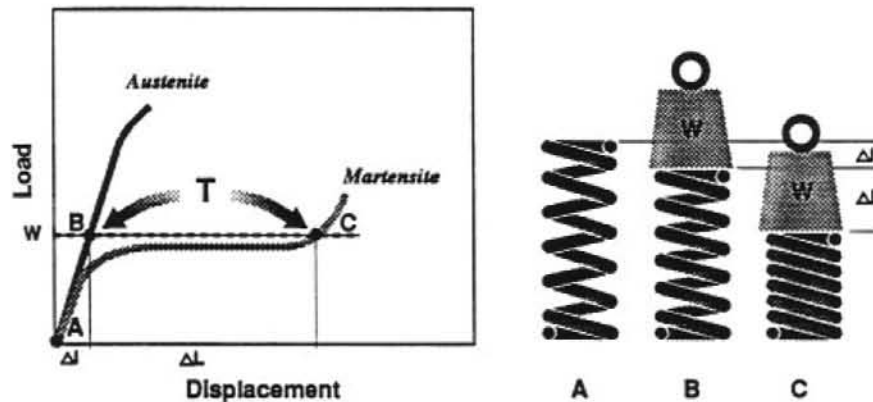
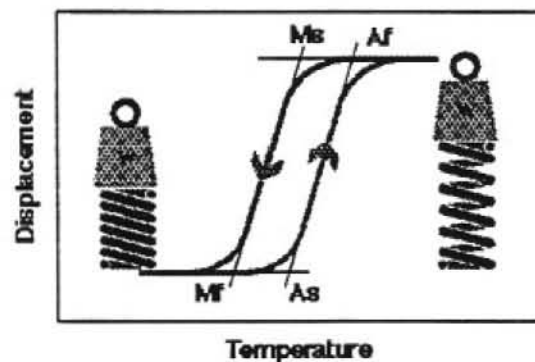

Figure 6: Work Against a Constant Load
Figure 7: Extrinsic Two-Way Effect With Constant Load
The design of shape memory elements for thermal actuators is based on the different stress/strain curves of the austenite and the martensite. As an example, Figure 6 shows the force/deflection curves of a helical compression spring at high and low temperatures. The high temperature shape of the spring with no load is L_0 (A). If the spring is loaded with a constant load W in the austenitic condition (at temperatures above A_f) the spring is compressed along A - B with the displacement Δl (B). Upon cooling below M_f the spring converts into martensite. Now the load W compresses the spring to point C on the martensite curve with the displacement ΔL . Repeated heating/cooling cycles between points B and C. The temperature/displacement diagram for this arrangement is shown schematically in Figure 7.